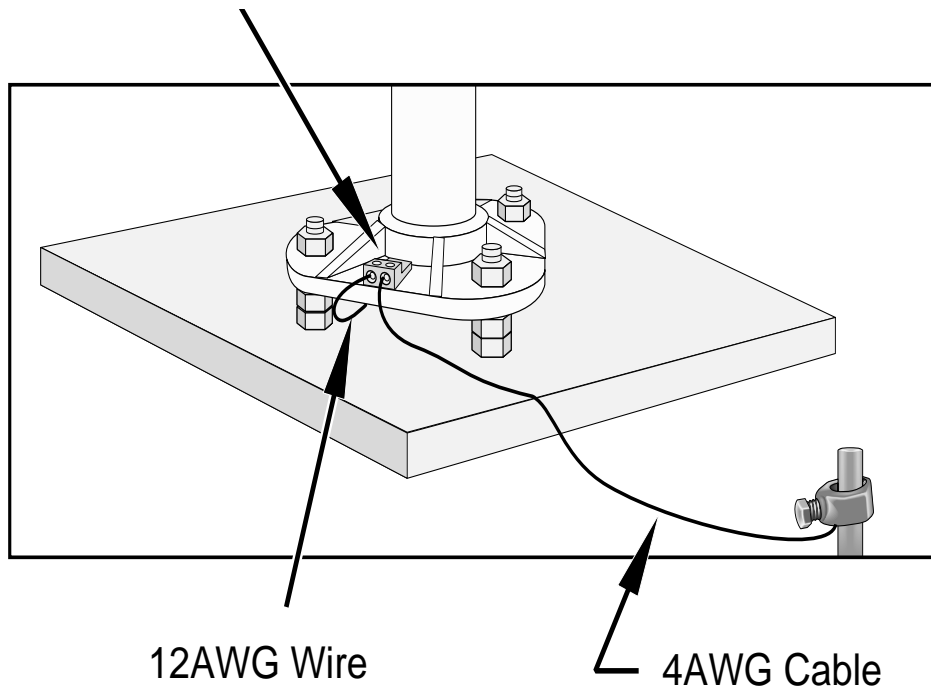

FIGURE 2.2-1. Raising and Grounding the TLX106 Tower
Attach the tower to the base as shown in Figure 2.2-1.
Ground the tower as shown in Figure 2.2-1.
3. Strip 1 inch of insulation from both ends of the 4 AWG ground cable. Strip 1 inch of insulation from the lower end of the 14 AWG ground wire. Install the tower grounding lug to the tower base with the 7/16 bolt provided (Figure 2.2-1). Loosen the lug's set screw and insert the 4 AWG and 14 AWG wire. Tighten the set screw.
4. Loosen the ground rod clamp. Insert the 4 AWG wire. Tighten the clamp (Figure 2.2-1).